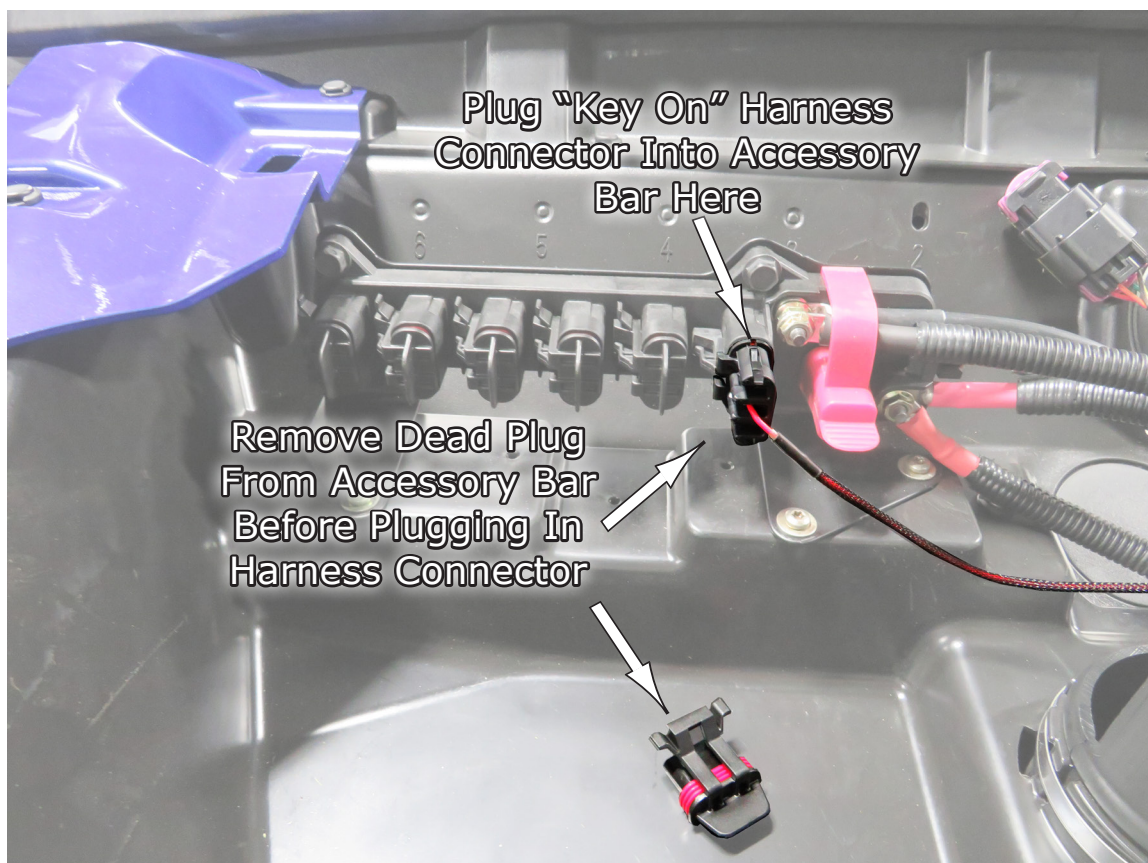

Fig.20
20. After pull out the Key On cable where you removed the grommet from, you will need to plug it into the Accessory Bar in the far right plug next to the big Red clip to the right as shown in **Fig.20**. The far right plug has a dead plug in to keep it clean while not in use, so remove it to plug in your Key On connector. This is for new machines. Older machines see next step.
21. If you have an older machine, you may not have an accessory bar as shown in **Fig.20**, and will not be able to use the harness connector shown in **Fig.20**. If this is the case, all you need to do is cut the harness connector off and crimp on the **Ring Terminal** provided in your kit, **Item"D"** to hook up to a different location. See **Fig.21**.